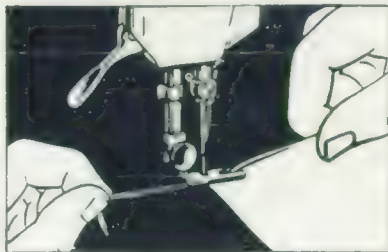

Fig. 38. Starting a Hem at the Edge.
3. Raise hemmer. Pull threads and hem slightly from you with left hand ; then, while holding threads, draw material toward you with right hand into scroll of hemmer until tacked end is caught in hemmer, as shown in Fig. 38.